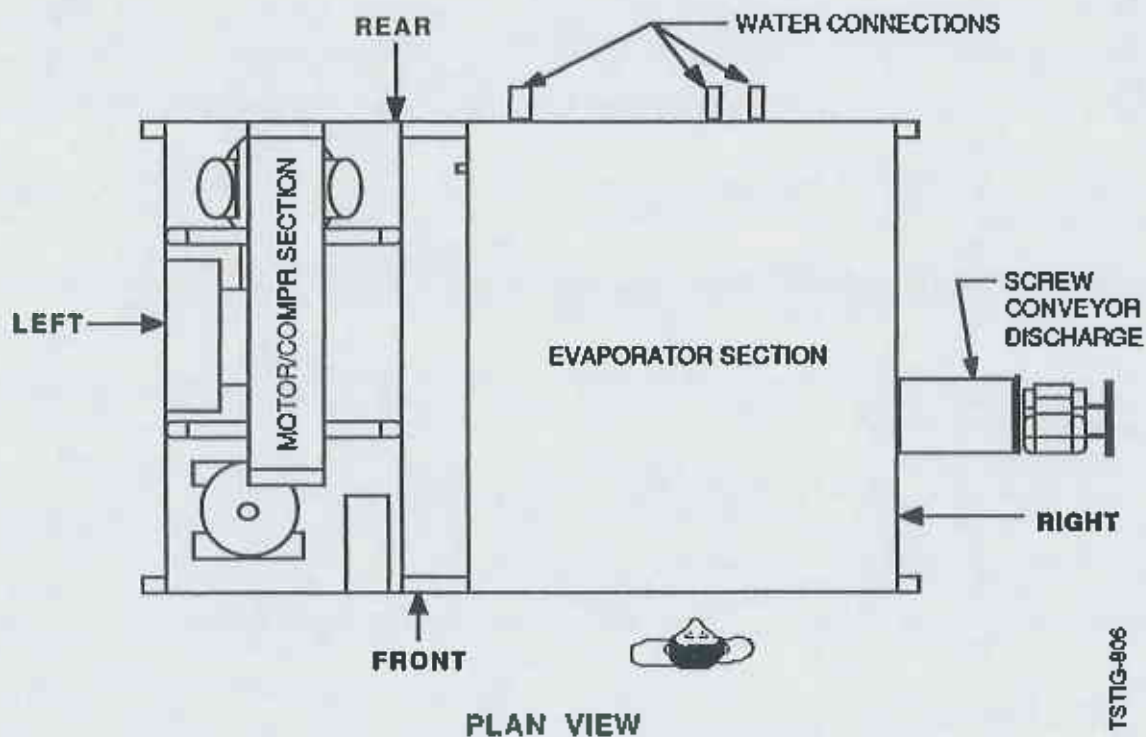

Figure 3-1 TIG Unit Orientation (Typical SC Model)
- Establish front and rear, and left and right of the TIG unit by facing the motor/compressor and evaporator sections (see Figure 3-1).